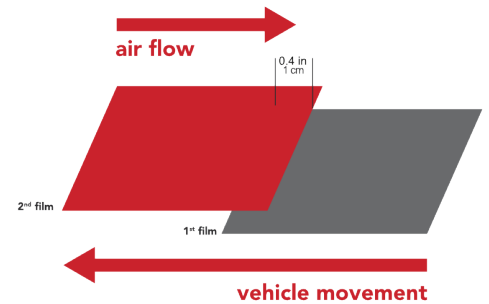

Fig.20
- › Vertical overlap on mobile surfaces: as the film is always applied starting at the rear of the vehicle working towards the front, the second width overlap the first one etc. (FIG. 20)